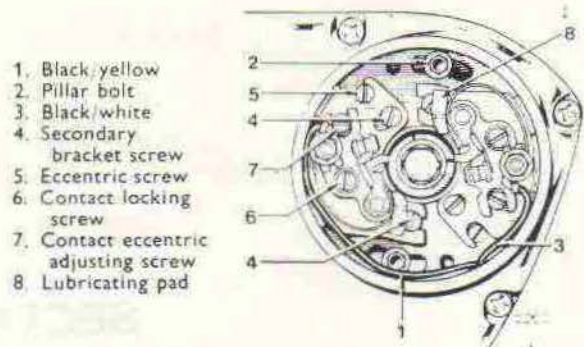

Fig. B21. Contact breaker
- (2) Repeat for the L.H. plug and adjust the timing by slackening off the clamping screw on the auxiliary backplate and turning the eccentric screw (see Fig. B21) until again the markings align. Timing is then correct. Refit the primary chaincase inspection plate.